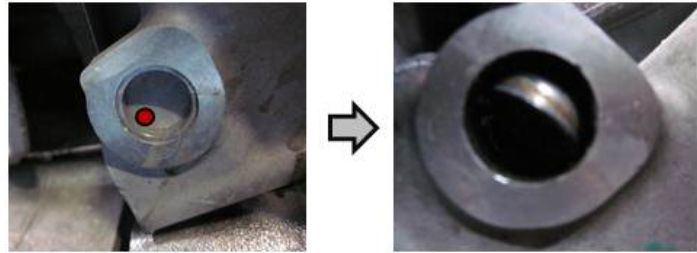

Figure 8. Marked area on main port of freeze plug.
- Remove main port freeze plug by hitting the marked area with a small punch until it turns (Figure 8). Remove with pliers.